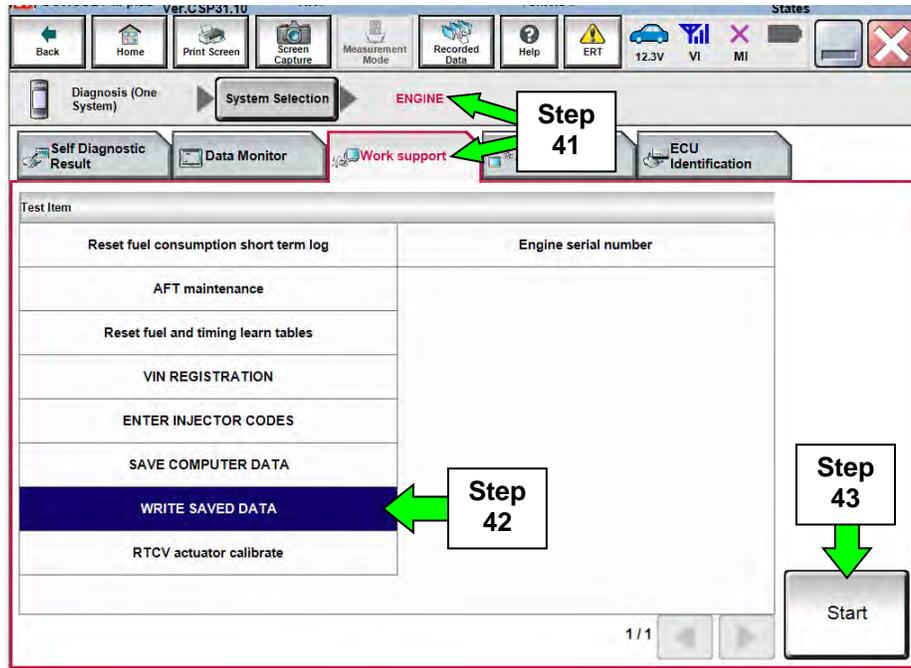

Figure 32
41. Navigate C-III plus to **ENGINE**, and then to **Work support** (see Figure 32).